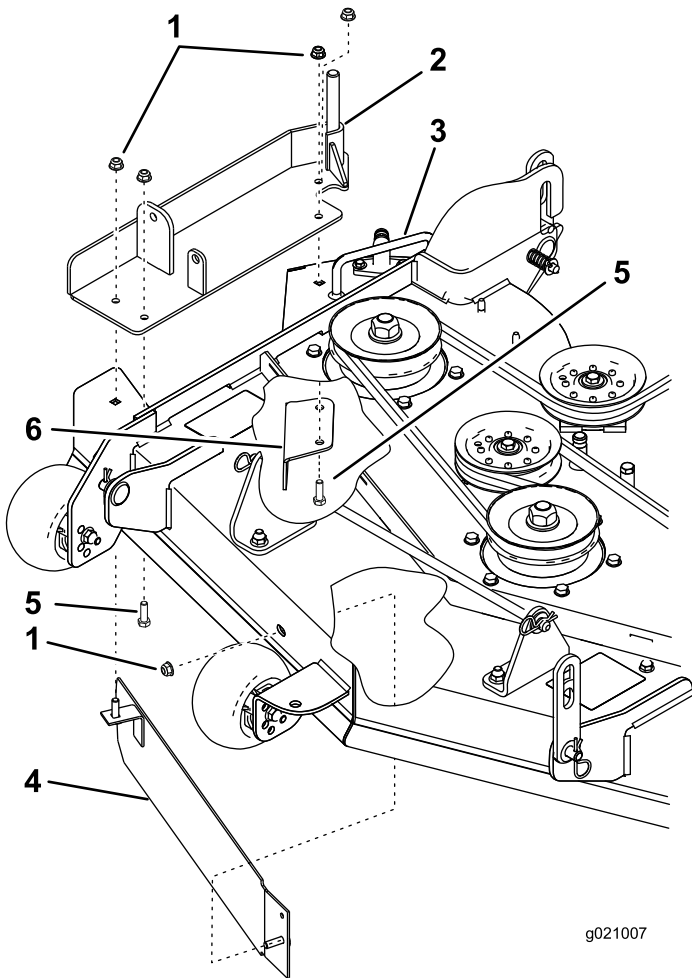

Figure 4
2. Install the baffle to the front of the mower deck with a flange nut (5/16 inch) (Figure 4).
3. Install the blower support and existing cutoff baffle to the top of the mower deck with 3 bolts (5/16 x 1 inch) and 3 flange nuts (5/16 inch). Refer to Figure 4
4. Using the vertical stud in the baffle, install the blower support to the mower deck with a flange nut (5/16 inch) (Figure 4).